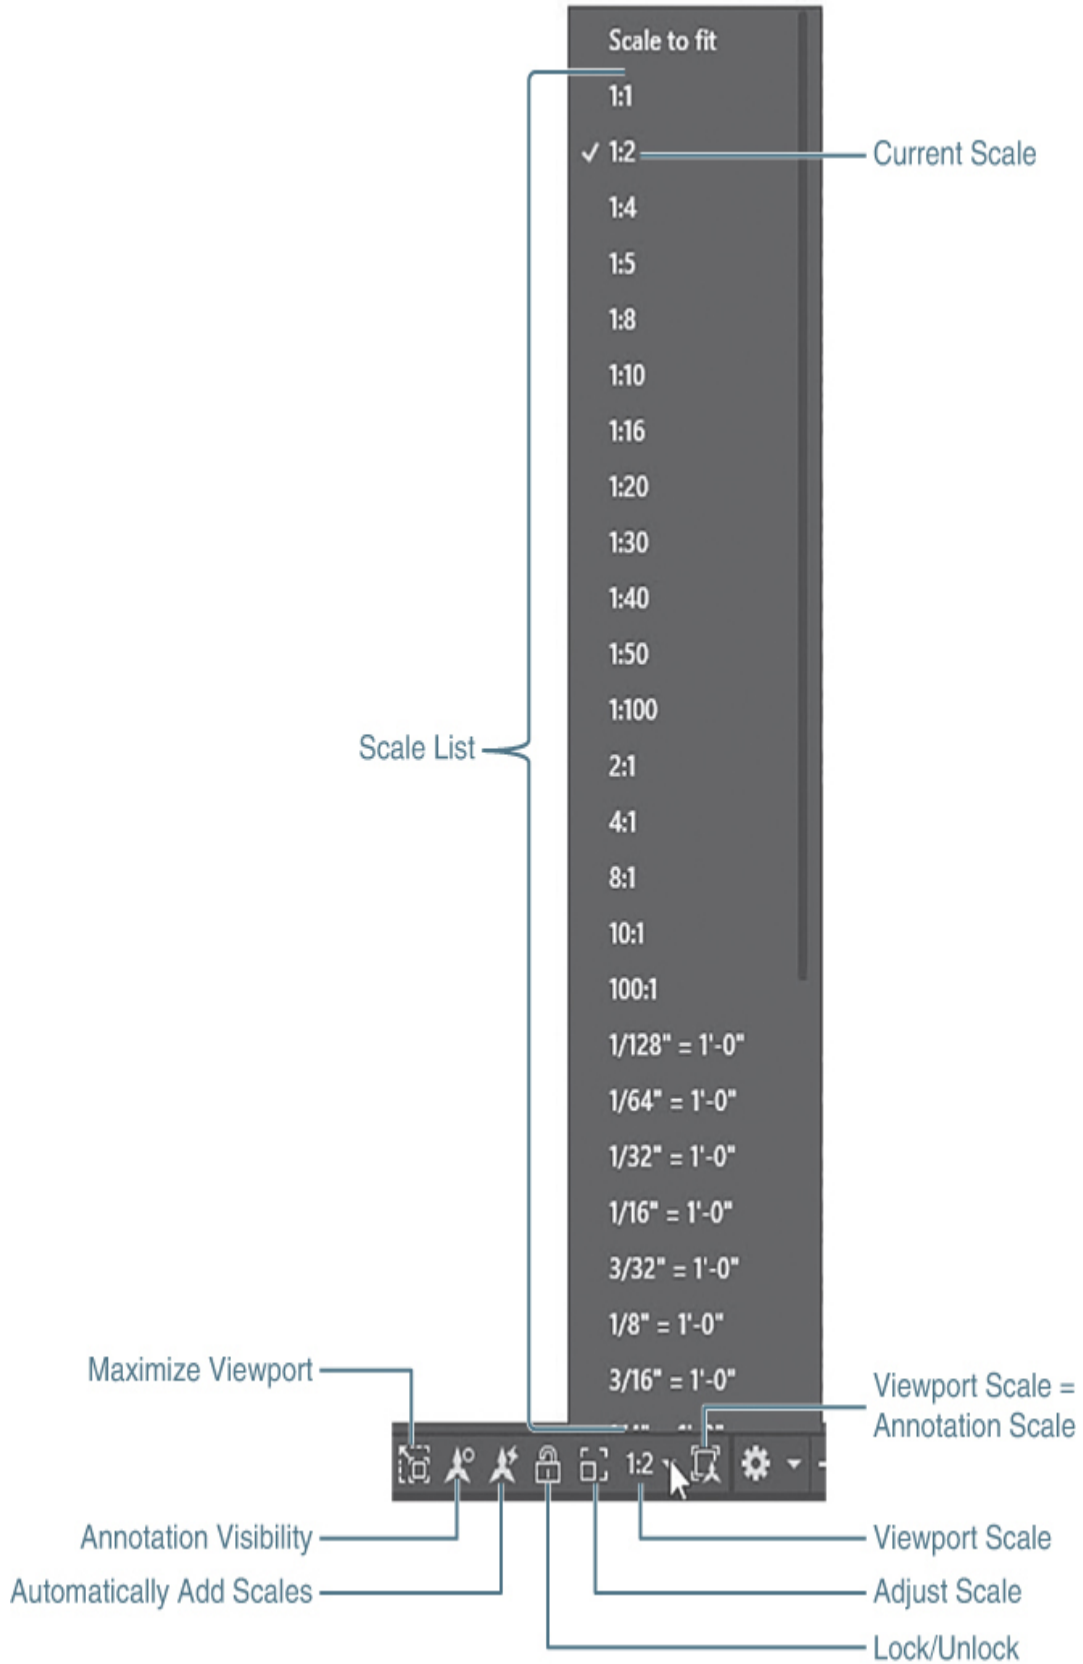

Figure 2-50
- 4 Click on the **Automatically Add Scales** icon a few icons to the left of the **Viewport Scale** button on the status bar shown in Figure 2-50, and turn it on so that the dimensions automatically scale in the next step.
- 5 Click on the down arrow to the right of the **Viewport Scale** button on the status bar shown in Figure 2-50 to display the scale list and choose **1:2**. Your drawing will zoom so that your model is half-scale (1:2) on your layout (paper).
- 3** Click on the **Annotation Visibility** icon to the left of the **Viewport Scale** button on the status bar shown in Figure 2-50. Turn it on so that all scale representations